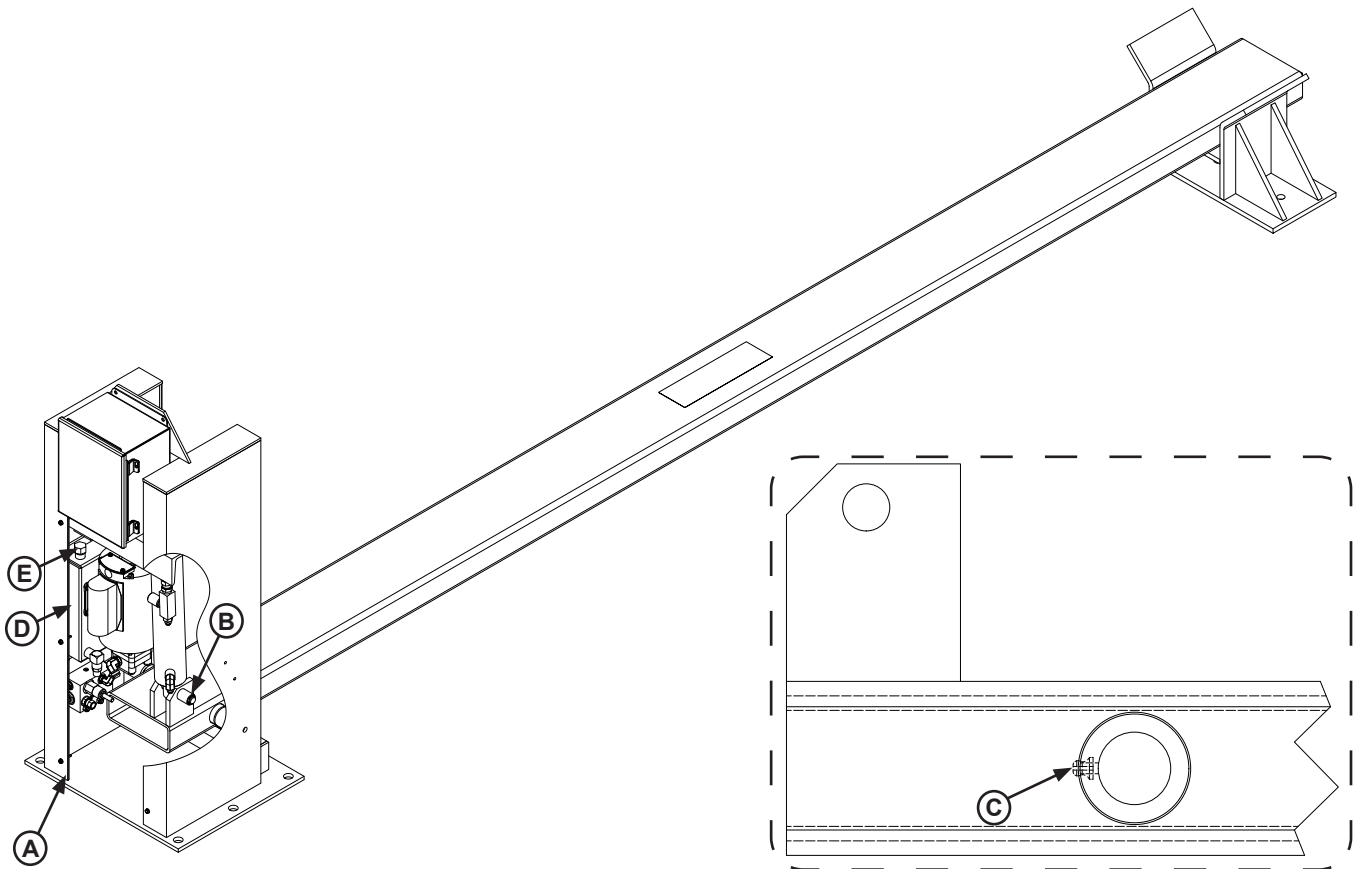

Figure 12
- Remove rear service panel (A) and lubricate the hydraulic cylinder pins (B) with light weight machine oil (see Figure 12):
- Lubricate the grease zerk inside the barrier arm (C) white lithium grease (see Figure 12).